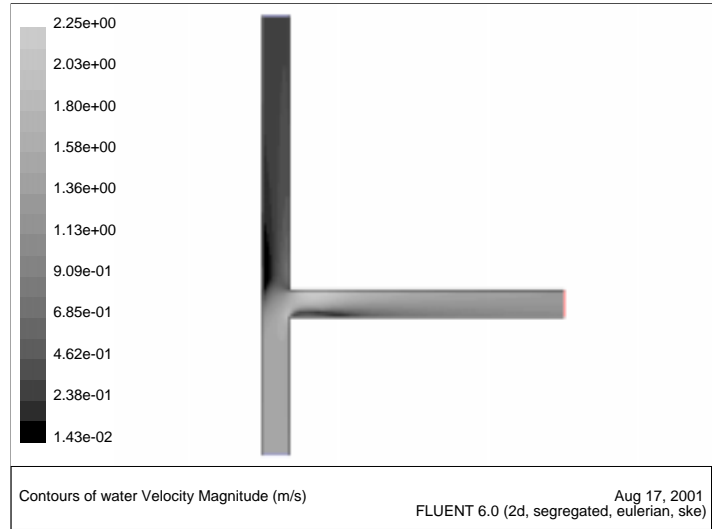

Figure 17.7: Contours of Water Velocity Magnitude
2. Display contours of velocity magnitude for the water (Figure 17.7).